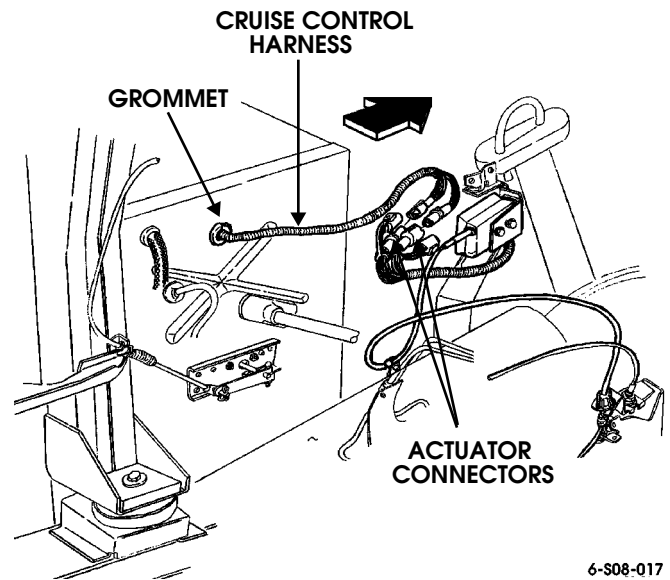

Figure 13-69: Actuator Connectors
1. Disconnect two harness connectors from actuator connectors (Figure 13-69).
4. Connect two harness connectors to actuator connectors (Figure 13-69).